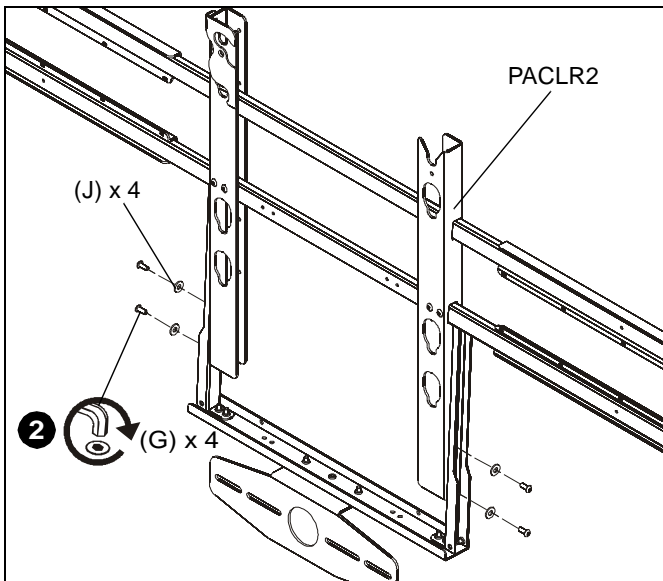

Figure 3
2. Connect height-adjust uprights (B) to uprights on PACLR2 using four #10-24 x 1/2" button head cap screws (G) and four #10 washers (J). (See Figure 3)